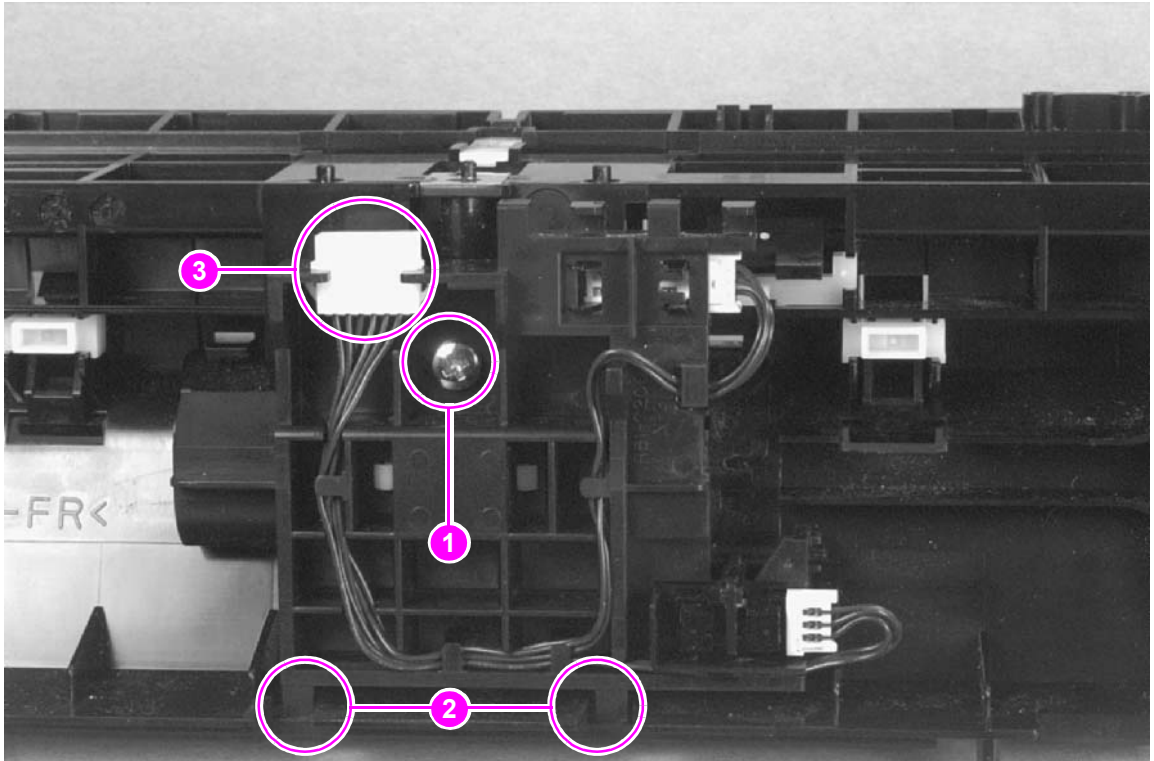

Figure 6-36 Feed Assembly removal (2 of 3)
- 4 Remove the self-tapping screw that holds the Feed Assembly in place (Figure 6-36, callout 1).
Before proceeding to Step 5, examine the tabs and how they fit into their slots (Figure 6-36, callout 2). The tabs must be reinstalled to exactly this position.
The connector shown (Figure 6-36, callout 3) is not present on the HP LaserJet 6L Pro. On that model, the wiring harness is connected to the DC Controller.